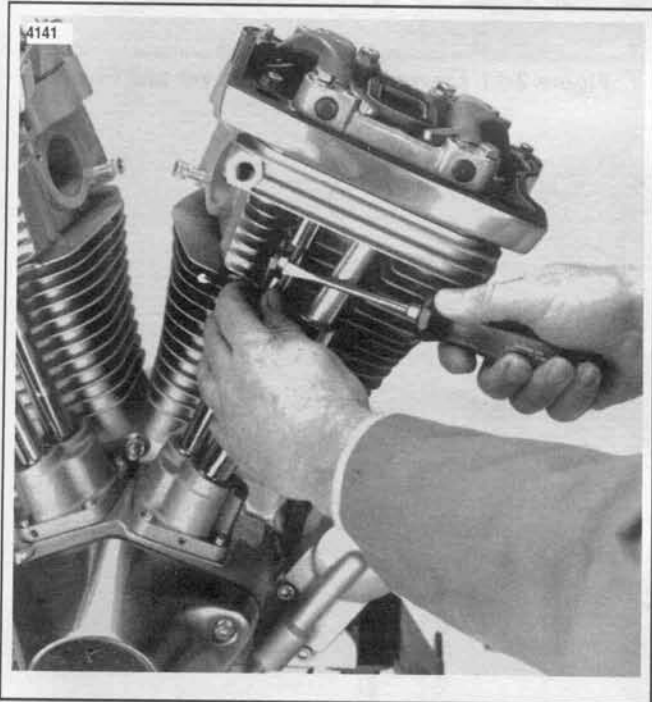

Figure 3-8. Remove Spring Cap Retainers
8. See Figures 3-8 and 3-9. Remove spring cap retainers (2) on push rod covers and remove push rod covers and associated parts (3 through 11).